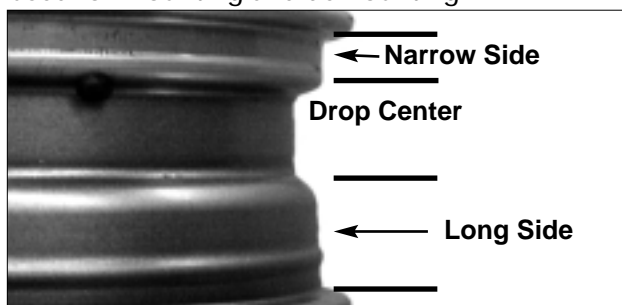

Figure 1 - Determining Tire Mounting Side
3. Place the tire/wheel assembly over the center post and down onto the contoured table top, with the narrow side of bead seatup (figure 1). The positioning pin must engage a lug hole in the wheel. Position the tire/wheel assembly so that the valve stem is on the operator's side of the machine.